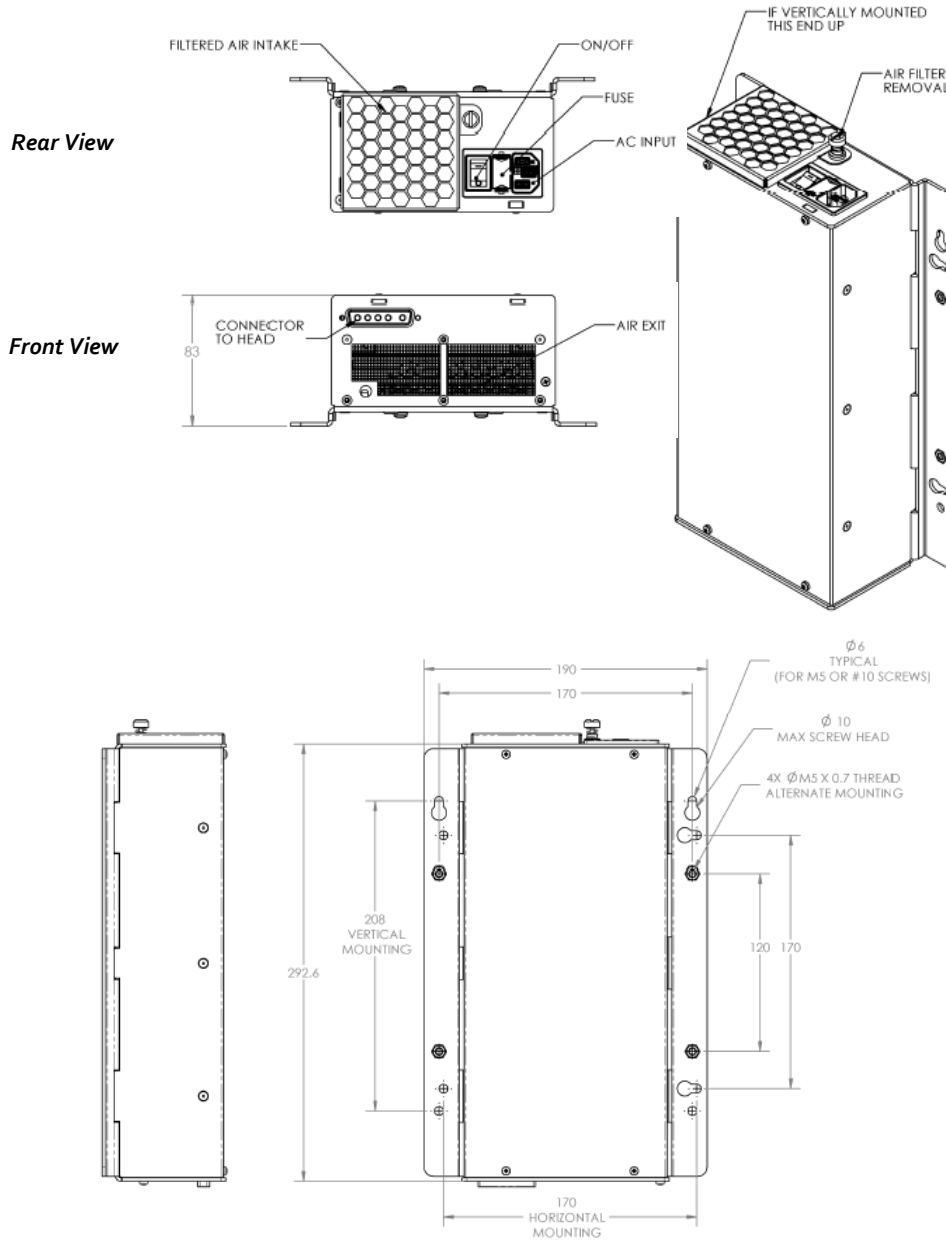

Figure 1 SC0650 Unit
1. Ensure that the power switch on the rear of the System Controller is set to the "off" position (see Figure 1).
To install the System Controller (refer to Figure 1):
10. Select an appropriate fastener type and identify the correct fastener spacing from figure 1.
- ensure that the mounting surface has holes spaced as per figure 1 through which M5 x0.7 fasteners can be threaded (preferred option) or inserted and bolted on the reverse side of the mounting surface.